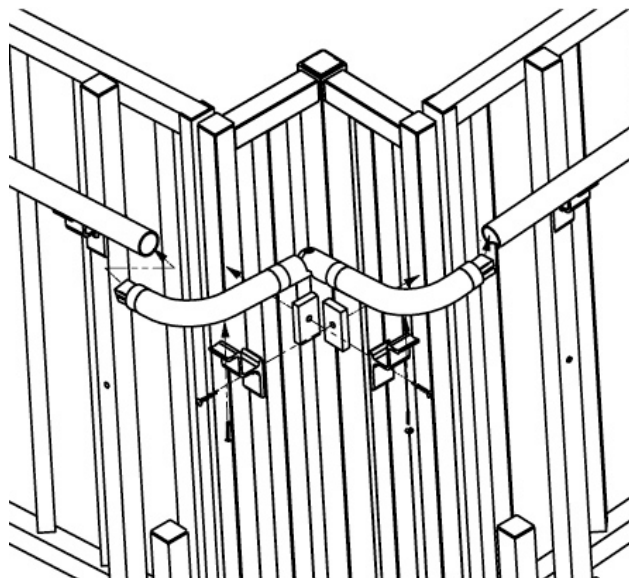

FIG. 40
- 8.7.4 Attach handrail brackets and spacers to guard post using one 5/16" x 1-1/2" self drilling square drive screw per bracket to secure (FIG. 40).